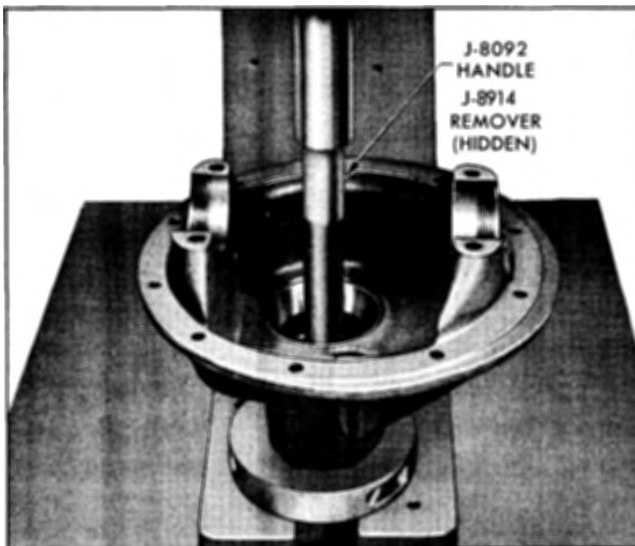

Fig. 4-40 Removing Front Pinion Bearing Outer Race with J-8914 and Drive Handle J-8092
21. Using remover J-8914 and drive handle J-8092, press outer race from carrier (Fig. 4-40).